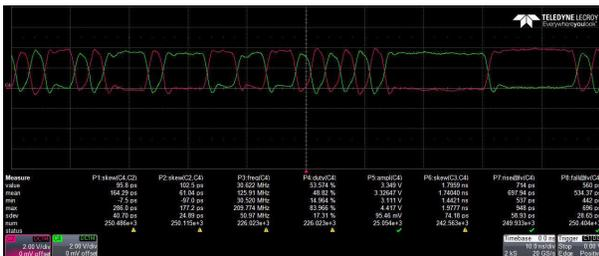
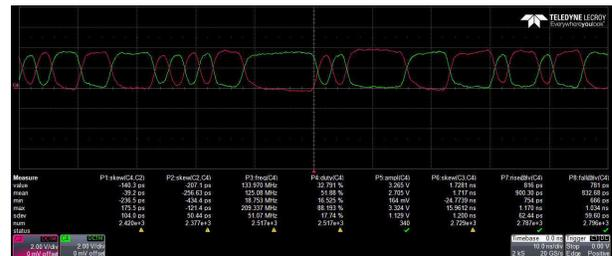

Figure 3-5. TXV Outputs (10 pF 1.8 V to 3.3 V Up Translation at 125 MHz, 25°C)
Figure 3-6. Competitor Outputs (10 pF 1.8 V to 3.3 V Up Translation at 125 MHz, 25°C)
- For 10 pF, Figure 3-5 shows TXV outputs (measuring PRBS rise-to-fall skew of 164 ps and fall-to-rise skew of 61 ps) vs competitor (measuring 39 ps and 257 ps respectively). For fall or rise times, TXV (measured 698 or 534 ps) vs competitor (measuring approximately 2x slower rise or fall times >750 ps), violating RGMII requirement as shown in Figure 3-6.